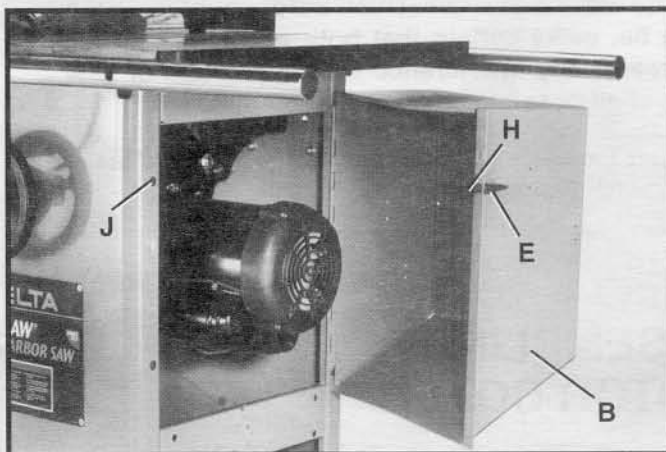

Fig. 34
4. With locking lever (E) Fig. 34, in the raised position, swing the free end of motor cover (B) toward the front of the cabinet until end (H) of locking lever enters and engages with the pre-drilled hole (J) in the cabinet.